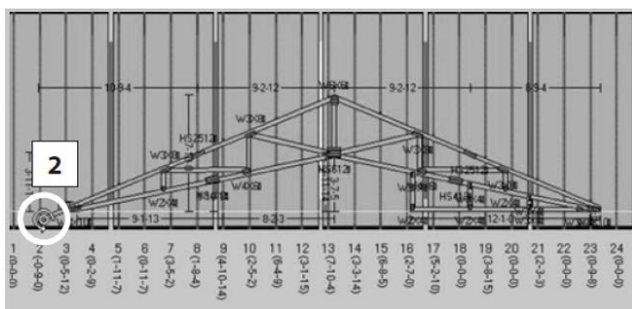

FIGURE 30
2. Click to select the center of rotation point (Figure 30)